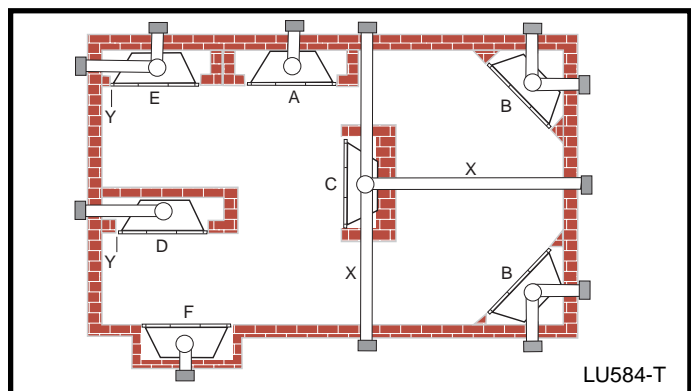

Fig. 1 Locate gas fireplace.
### Note (Fig. 1):
\* When you install your fireplace in (D) Room divider or (E) Flat on wall corner positions (Y), a minimum of 6" (152mm) clearance must be maintained from the perpendicular wall and the front side edge of the fireplace. See (Y) in Fig. 1.